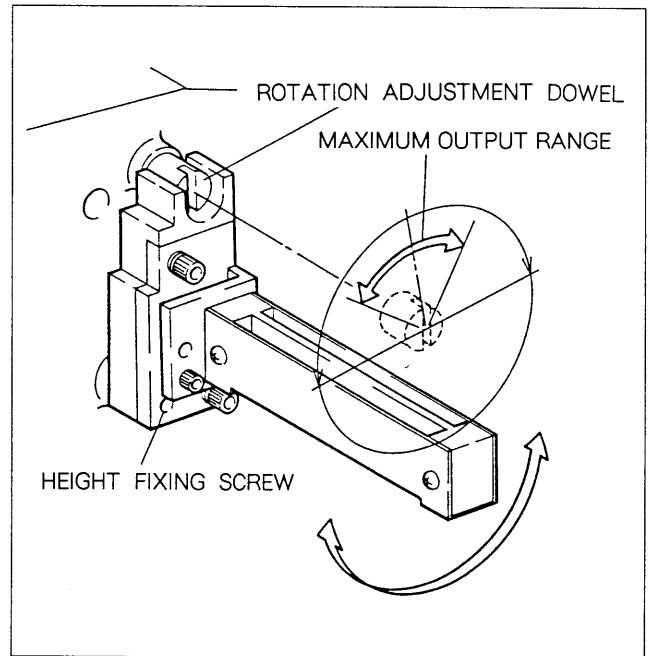

Fig. 9-8-5. Audio Monitor Head Rotation Adjustment
- (5) Turn the monitor head rotation adjustment dowel shown in Fig. 9-8-5 right and left so that check the maximum range of CH-1 (DA. CH-1) output.